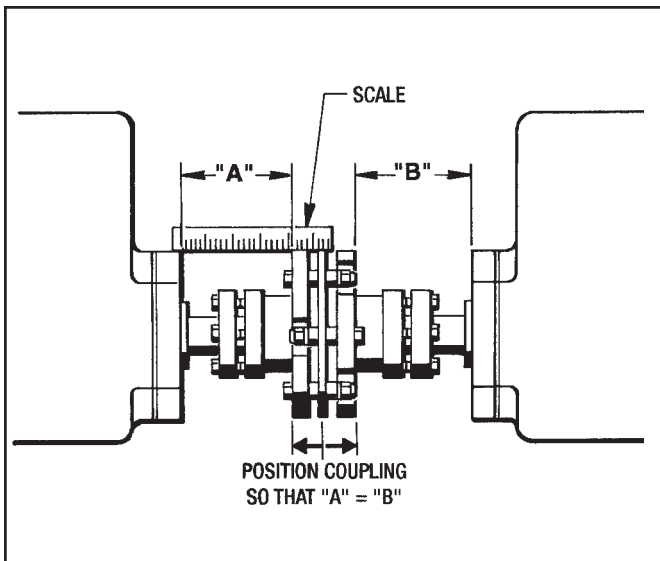

Figure 6.11 - Coupling Alignment
- a. Loosen the (7) Clamping Screws in each of the Shrink Discs and slide the Coupling Elements together.
- b. Install the (3) L.H. Bolts, Washers and Nuts into the L.H. Hub and Disc. Carefully tighten all (6) Bolts alternately in a clockwise direction until all Screws are **torqued to 7.7 Lb. Ft.**
- c. Position the Coupling so that Dimension "A" is the same as Dimension "B". Use a straight metal scale to determine this. (See Figure 6.11)